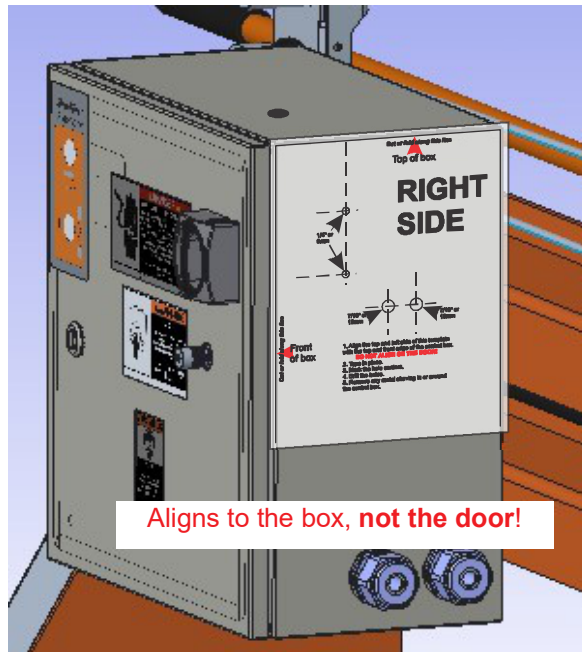

FIG. 6
5. Drill two holes in control box right side as shown in FIG. 6.